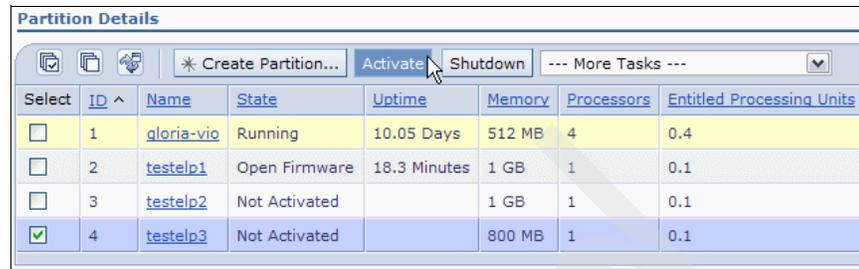

Figure 6-6 Activating an IVM partition
- b. Click **Activate**, as shown in Figure 6-6.